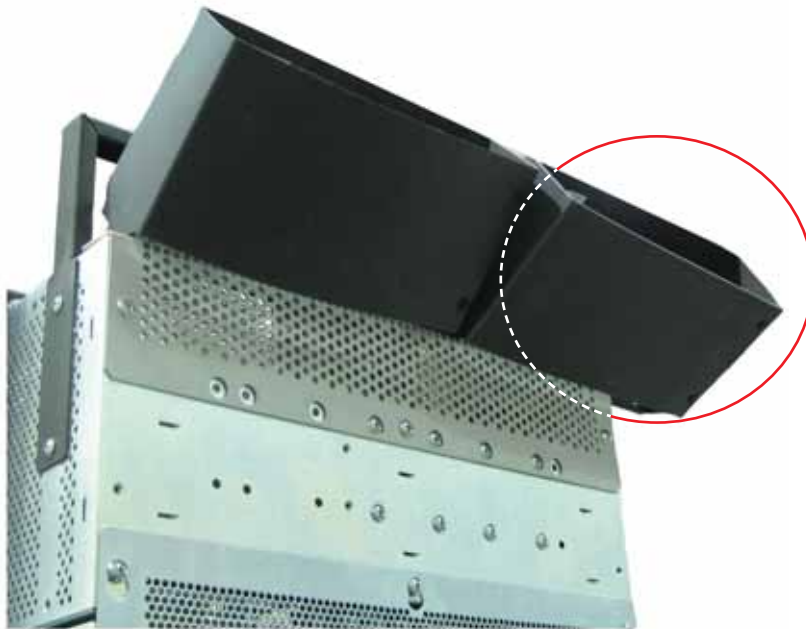

Figure 15 — Battery terminations shown with protective covers
- » Sides: Allow ~6in (15cm) additional space on the live side of the power system for the live battery return bar at the top of the bay (Figure 15).